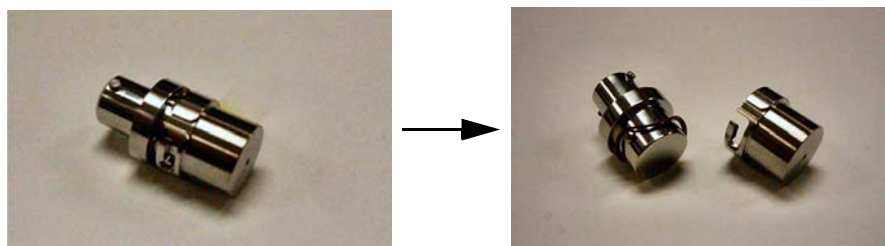

Figure 6-23. Separating ion volume and ion volume holder
- c. Press the ion volume into the ion volume holder and rotate the ion volume to remove it from the ion volume holder See Figure 6-23.